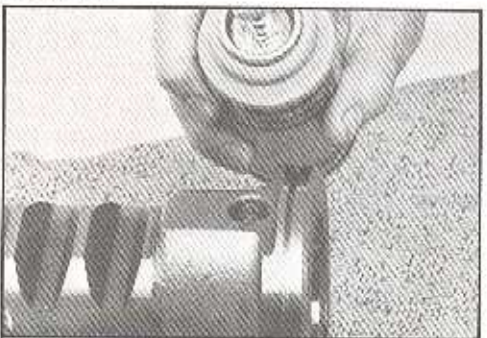

Figure 138
30. The threaded hole on top of the rack piston (35) and if the poppet seat (32) is removed, the threaded hole in large end face of the rack piston must be cleaned with clean clear solvent and blown dry with clean air. Apply "Locquic" Grade "T", primer to these two threaded holes in the rack piston, to the "cleaned" locking screw (36) threads and to the **new** poppet seat (32) threads. Allow ten minutes for threads to dry. SEE FIGURE 138.